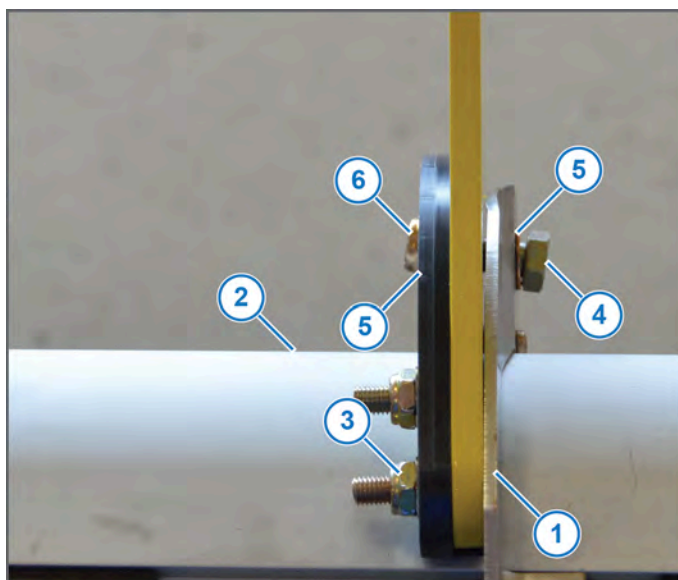

Figure 11: Installing the Boom Hanger Tabs
22. Slide the boom hanger tab assembly (Figure 11, Item 1) over the boom (Figure 11, Item 2) from the leading edge of the boom and onto the side of the boom hanger opposite of the plastic centering bracket nuts (Figure 11, Item 3).
23. Insert a 5/16 bolt (Figure 11, Item 4) through the boom hanger tab assembly and install the washers on each side (Figure 11, Item 5) and nut (Figure 11, Item 6).
See Figure 11